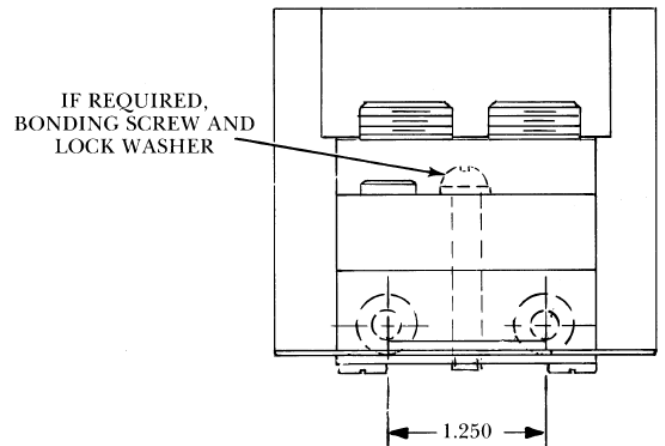

Figure 1 - Neutral
This is an insulated ground able neutral rated for 200A. Each kit contains the following parts (see Figures 1 and 2):
Step 3. Install bonding screw as shown in Figure 1 (if required). Torque fastener to 17-20 in-lbs.